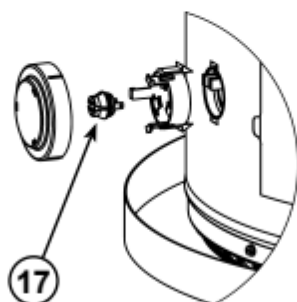

Figure 61.
- 17 Flammable Vapor Sensor (under cover) (see Figure 5) (see also Figure 61)